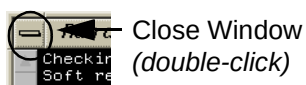

Figure 26 Close Window ICON
- 6.) To exit testing, close the window. See Figure 26.